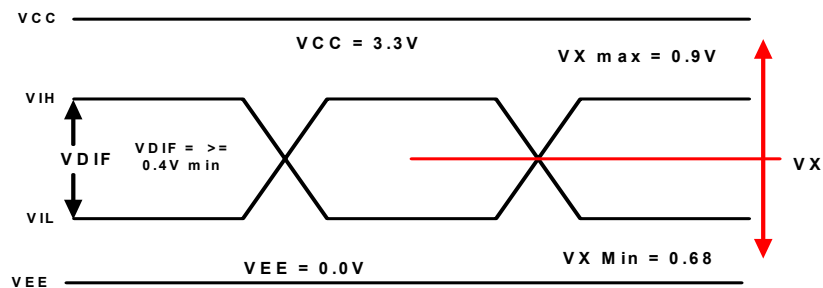

Figure 2. HSTL Differential Input Waveform Definitions
- $V_X(AC)$ is the crosspoint of the differential HSTL input signal. Normal AC operation is obtained when the crosspoint is within the $V_X(AC)$ range and the input swing lies within the $V_{DIF}(AC)$ specification. Violation of $V_X(AC)$ or $V_{DIF}(AC)$ impacts the device propagation delay, device and part-to-part skew. Refer to *Figure 2*.